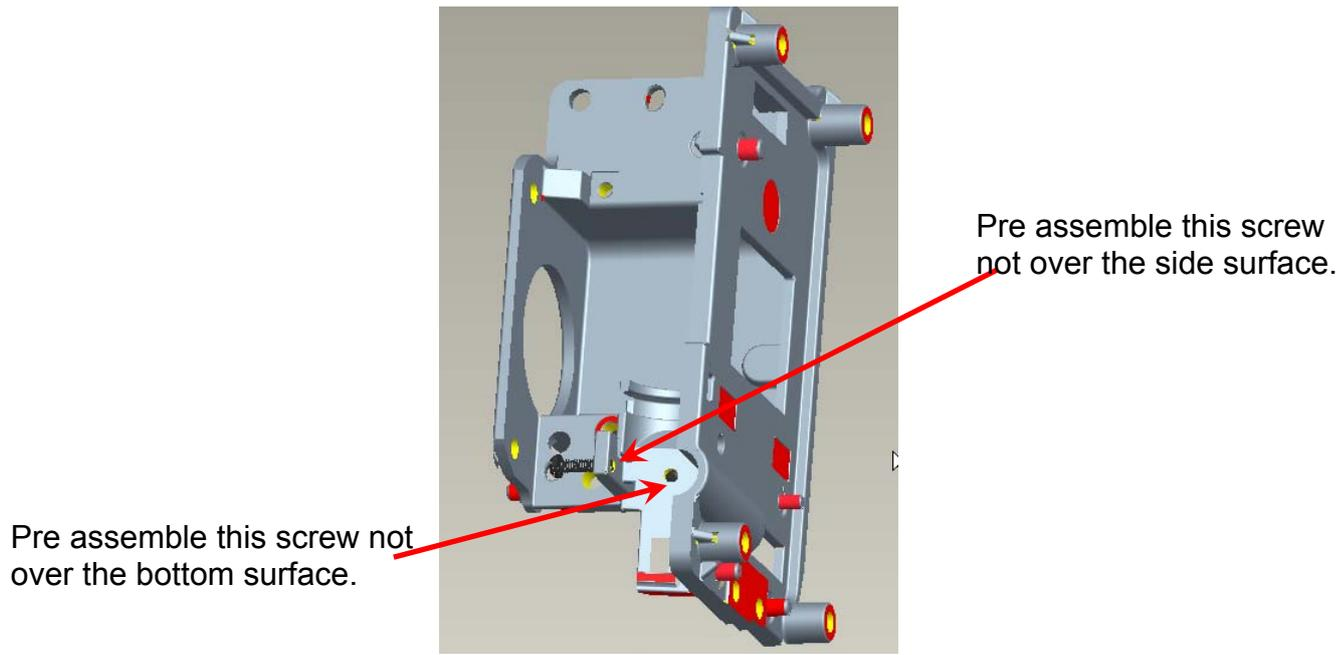

Fig. 4-9
- i. Pre-assembly 2 adjusting screws. Criteria shown as Fig.4-9.
- b. Refer to Fig. 4-9.